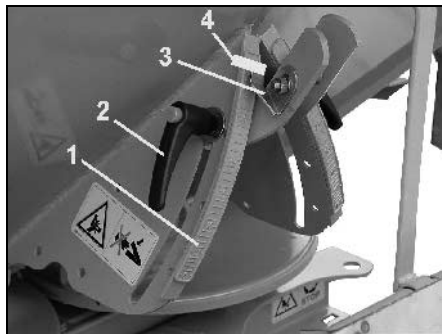

Fig. 28
- Slacken the clamping lever (Fig. 28/3).
- Read off the scale (Fig. 28/2) the scale figure for the shutter position taken either from the setting chart or determined with the calibration device.
- Set the read off edge (Fig. 28/4) of both setting levers of the scale figure.
- Retighten the clamping lever (Fig. 28/3).